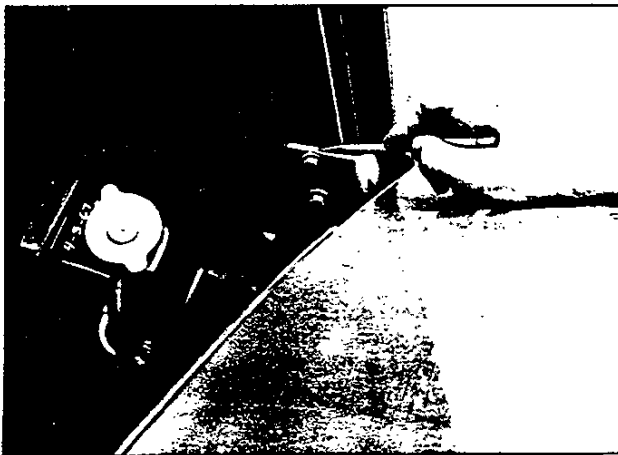

Fig. 5-Scribing Line Around Hood Hinge
1. If hood is to be reinstalled, scribe a line around hood hinge upper strap as shown in Figure 5.